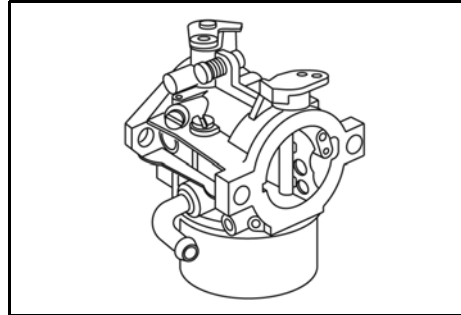

Figure 8
- Figure 8, Figure 9 - LMT, Models 200000, 210000, 280000, 310000, 330000 Vertical and Horizontal Shaft